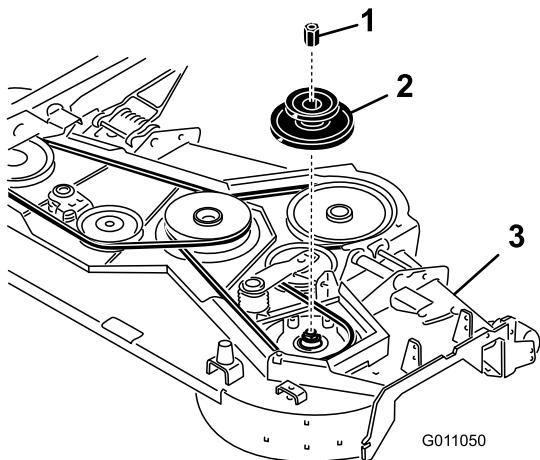

Figure 3
5. Remove the existing pulley nut and remove the pulley (Figure 3). Save the pulley and nut for later use.
6. Install the new double pulley onto the spindle and secure it with the new pulley nut (Figure 3). Torque the nut to 130-150 ft-lb (176-203 N·m).
4. Place a block under the right blade spindle under the mower deck before removing the right mower deck pulley (Figure 3). This will prevent the spindle components dropping down when the pulley nut is removed.